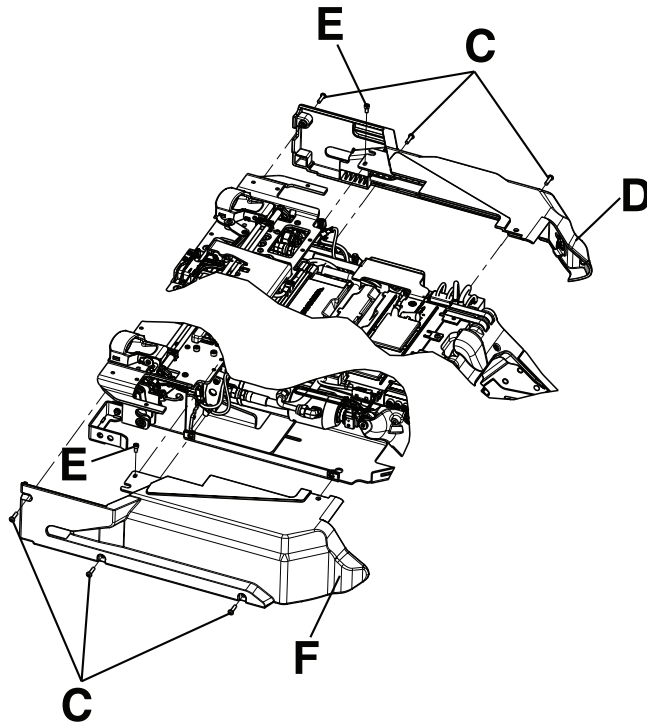

Figure 7 – Trolley side covers
2. Using a T25 Torx driver, remove the three screws (C) left side cover (D) (Figure 7).
3. Using a 5/32" hex wrench, remove one hex head screw (E) from the top of the left side cover (D) (Figure 7).
5. Repeat steps 2-4 to remove the side cover, right (F) (Figure 7).